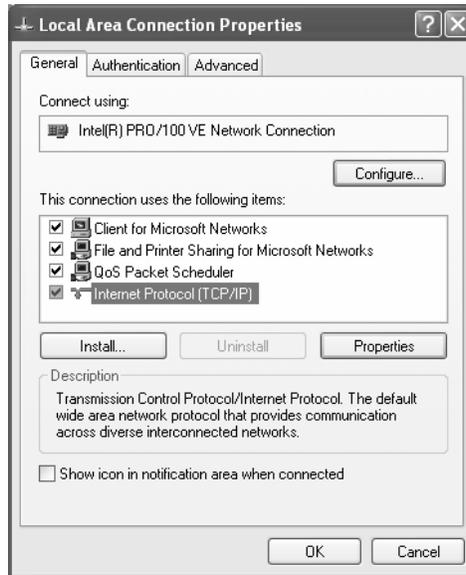

Figure 109: Local Area Connection Properties
4. Ensure that the Client for Microsoft Networks and Internet Protocol (TCP/IP) are installed and checked. See Figure 109. If NetBEUI is installed, uninstall it.